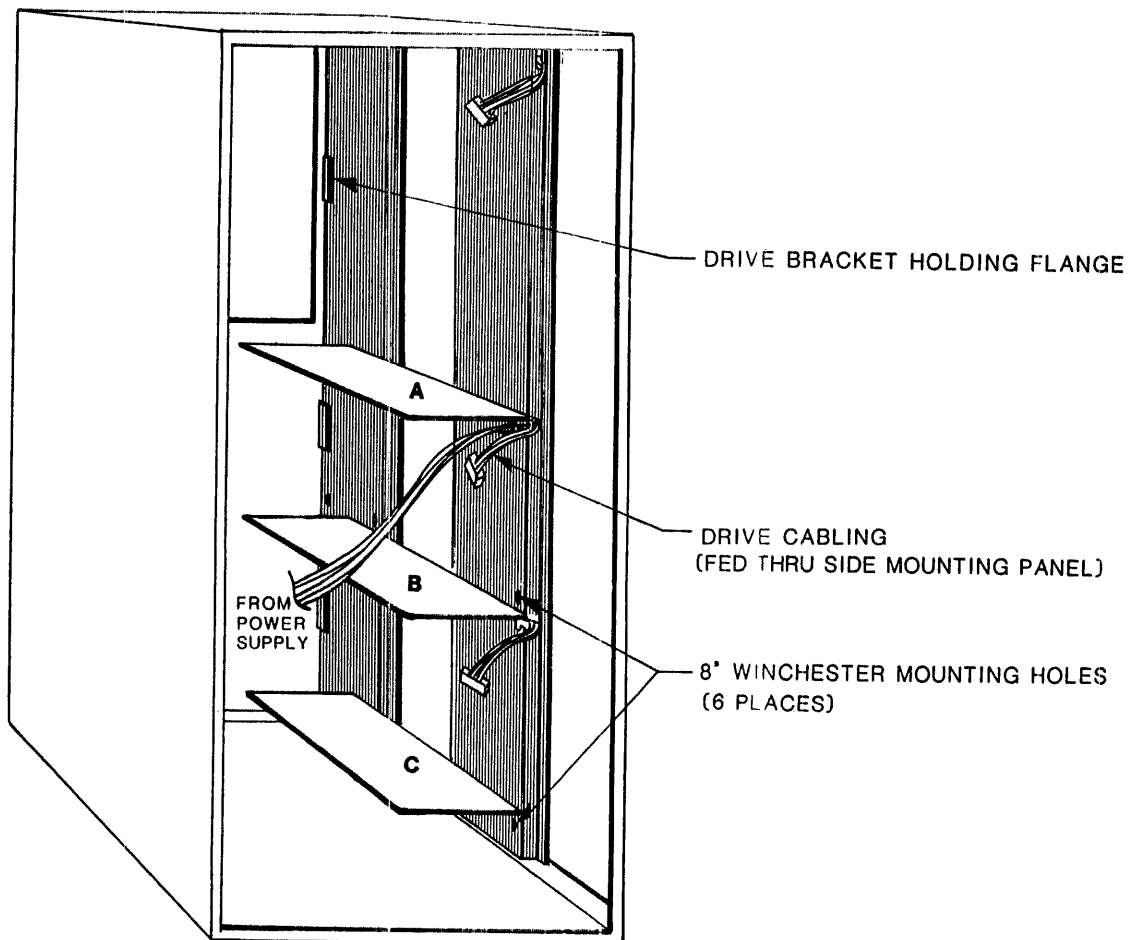
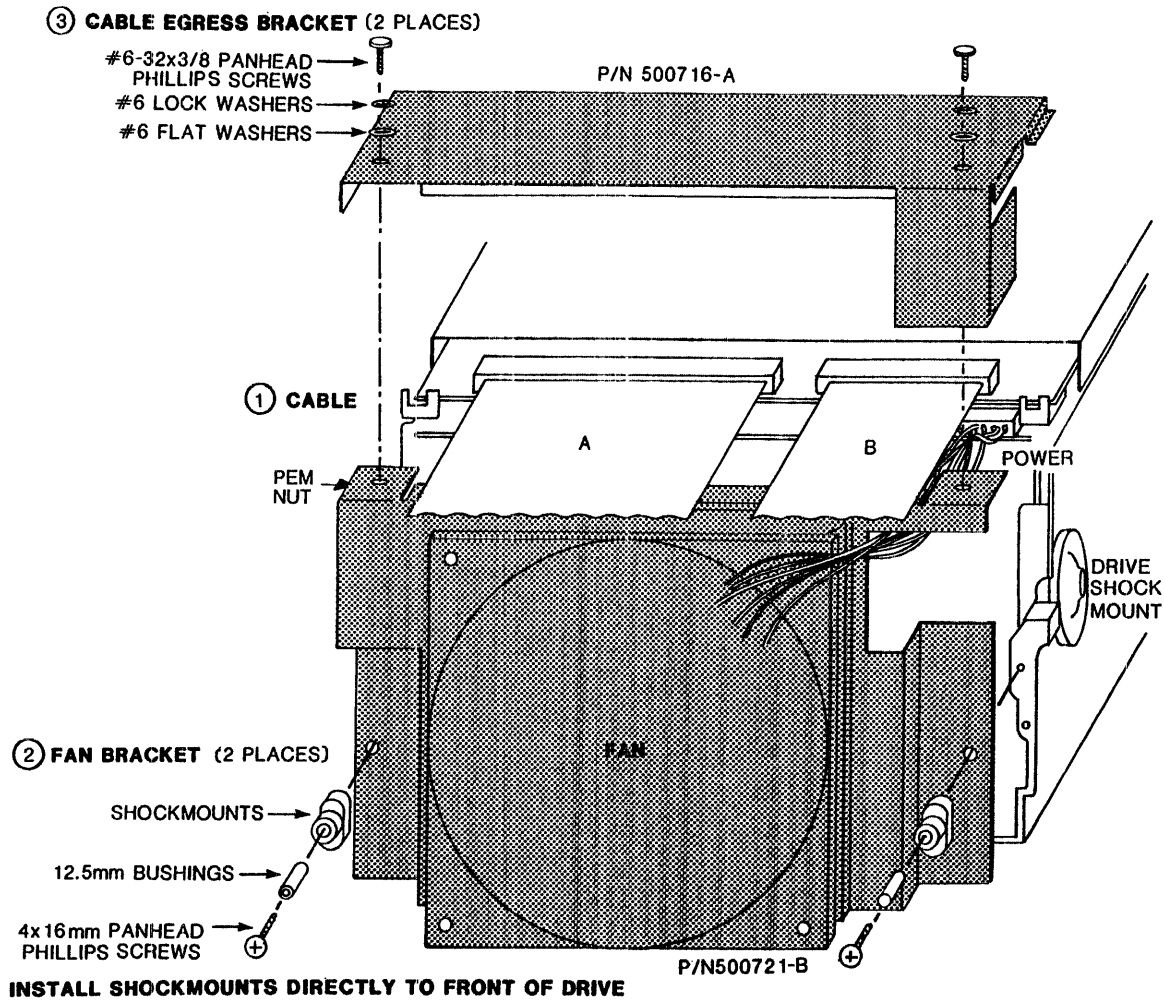

FIGURE 2-1: DRIVE MOUNTING LOCATIONS
FIGURE 2-5: 8" WINCHESTER DRIVE FAN BRACKET
The drives are mounted on drive mounting brackets and installed over the ledges in locations A, B, and C as shown in Figure 2-1. The 8" Winchester is mounted directly on the chassis and the B and C ledges shown below are not included for this version.
The 8" removable media drive is mounted onto the drive mounting bracket P/N 500354 and installed into the chassis in location A (Figure 2-1).
5. Cables are fed through the side chassis rails (Figure 2-1). Cable the 8" removable media drive per manufacturer's specifications.
The 8" Fujitsu Winchester occupies locations B and C and the mounting ledge shown in figure 2-1 is omitted. A fan bracket assembly (P/N 501194-200) must be mounted on the drive. With Figures 2-5 and 2-6 as a guide install the drive using the following procedure.
5. Secure the drive directly to the side of the chassis in drive locations B and C (Figure 2-1) using 10-32 x 5/8 hardware.
7. Drive cables are fed through the side chassis rails as shown in Figure 2-1. Insert the red/white twisted pair cable to the fan. Cable the drive per manufacturer's specifications.
2. Slide the mounting bracket under the front flange in drive location B (Figure 2-1).
4. If a second 5-1/4" Winchester drive is used, slide the 2nd mounting bracket under the flange in drive location C (Figure 2-1) and secure the bracket at the rear with thumbscrews.
6. Drive cables are fed through the side chassis rails as shown in Figure 2-1. Cable the drive per manufacturer's instructions.